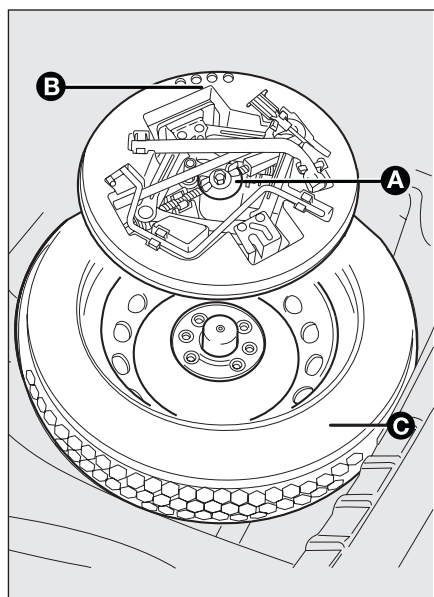

fig. 11
- ☐ loosen the fastening device **A**-fig. 11;
- ☐ stow the spare wheel **C-fig. 11** in the space provided in the boot;
- ☐ Fit the jack partially open in its box **B-fig. 11** forcing it lightly to prevent it from vibrating when travelling;
- ☐ arrange the container and tools in the spare wheel and secure the fastening device **A-fig. 11**;